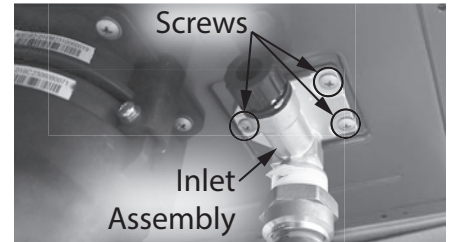

Figure 220 - Inlet assembly location
- 20 Locate the inlet assembly at the bottom right side of the water heater as shown in Figure 220.
- 23 Locate the three (3) screws securing the inlet assembly to the base of the water heater. Use a Phillips screwdriver to remove the screws. Place screws aside in a safe place for reinstallation. See Figure 220.